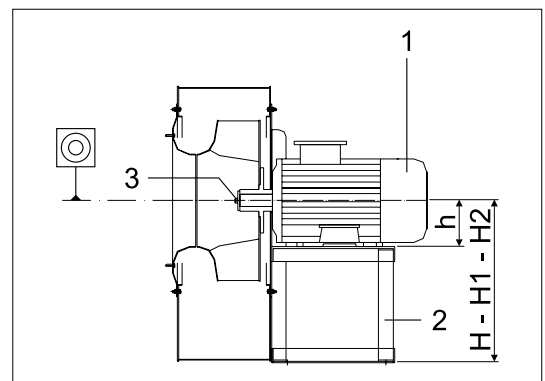

FIG. 16 (Assembling the motor on the base)
7	Make sure that the height of the electric motor axis (FIG. 16 - Ref. h) corresponds to the height of the base hole of the upper base side.
8	Make sure that the measure H or H1 or H2 is the requested one (s. FIG. 16 - Ref. H - H1 - H2 and given in the "Orientation" table, in the "paper catalogs", on the page "Overall dimensions and weights" or on the website - see example FIG. 13).
5.4.1- Assembling the electric motor on the base (FIG. 16)
- 1) Place the electric motor (FIG. 16 - Ref. 1) on the base bedplate (FIG. 16 - Ref. 2) inserting the electric motor shaft (FIG. 16 - Ref. 3) in the base hole;
- 2) Verify that the hole and the electric motor shaft are coaxial and make sure that the height of the electric motor shaft leaning on the base matches the height of the case hole from the base bedplate (FIG. 16 - Ref. h);